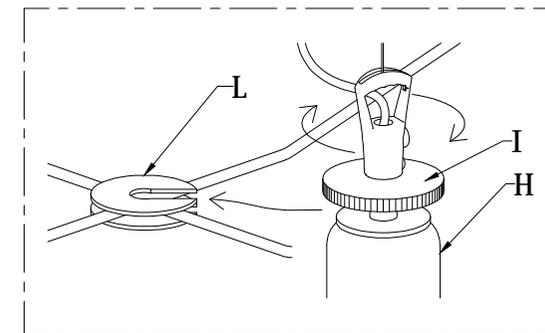

Fig.3
- E' possibile rimuovere il paralume(L) , svitando la ghiera (I). (Fig. 3).
- It is possible to remove the lampshade (L) by unscrewing the particular (I) (Fig. 3).